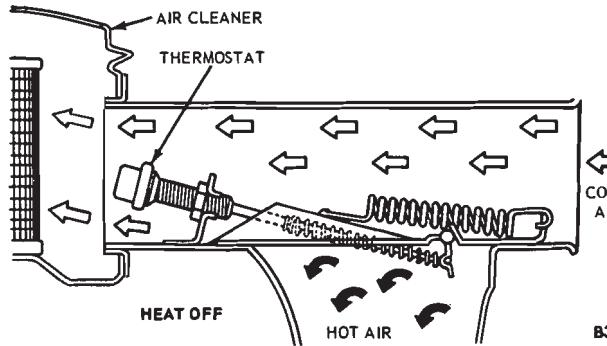

FIG. 1—Temperature Operated Duct and Valve Assembly in Heat-On and Heat-Off Positions
A temperature operated duct and valve assembly (Fig. 1) is used on all engines except 351 C engines.
1. With duct assembly installed on the vehicle, cold engine, and ambient temperature in the engine compartment of less than 100 degrees F, the valve plate should be in the **heat on** position (Fig. 1).
5. Raise the water temperature to 100 degrees F, allow 5 minutes to stabilize temperature, and observe the valve plate position. The correct position should be in the **heat on** position (Fig. 1).
6. Increase the water temperature to 135 degrees F, allow five minutes to stabilize the temperature, and observe the valve plate. The valve plate should be in the **heat off** position (Fig. 1).